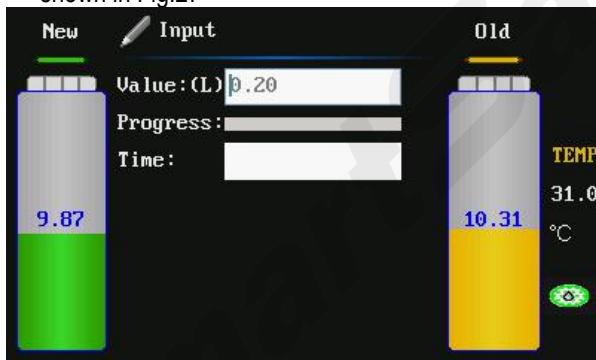

Fig.27
- 2) Input the amount to be filled, press OK key. As shown in Fig.27